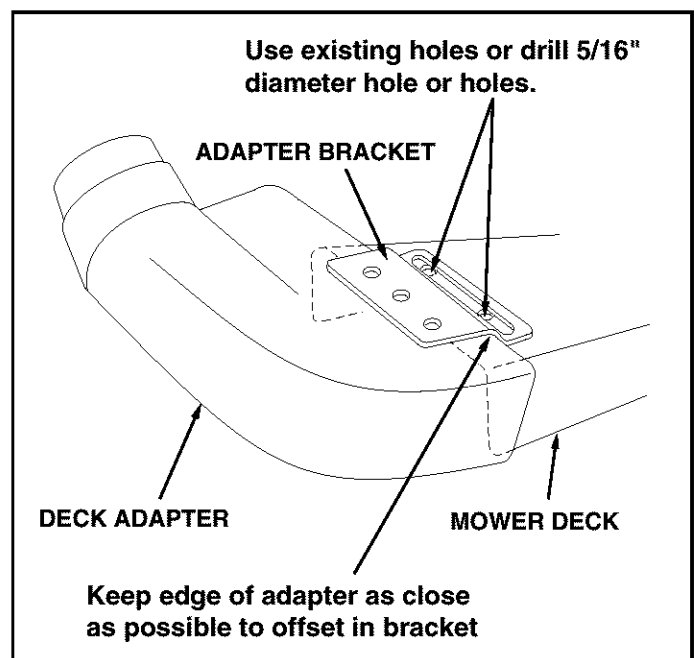

FIGURE 24
- Holding the adapter bracket and the deck adapter together, position the deck adapter on the mower deck. Keeping the edge of deck adapter as close as possible to the offset in the adapter bracket, see if the slot in the adapter bracket can be aligned with one or two of the deflector holes in your mower deck's discharge opening. If the bracket can not be located correctly using existing holes, it will be necessary to drill one or two 5/16" diameter holes in the deck. See figure 24.